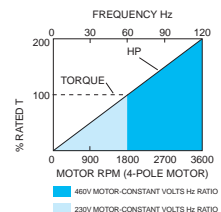

**FIGURE 15. ENERGY SAVINGS**
**Potential Power Savings**—Most fan and pump applications require the system to run for sustained periods at reduced outputs by either reducing the speed of the motor or by mechanically altering the flow. Figure 15 illustrates typical energy savings, in percent of rated power, which can be realized when using an adjustable frequency